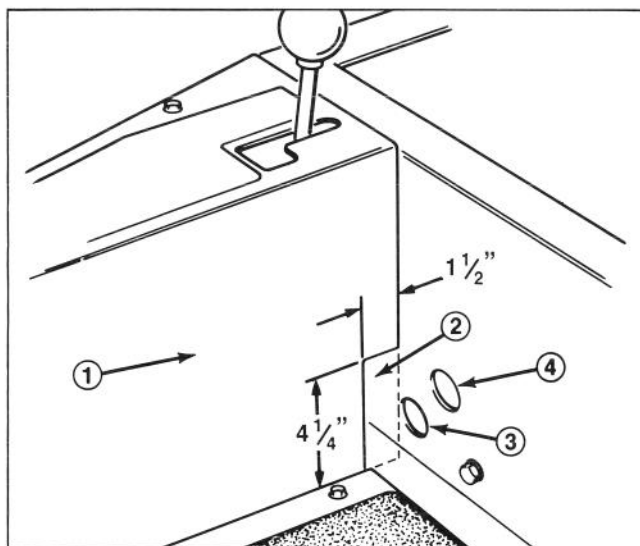
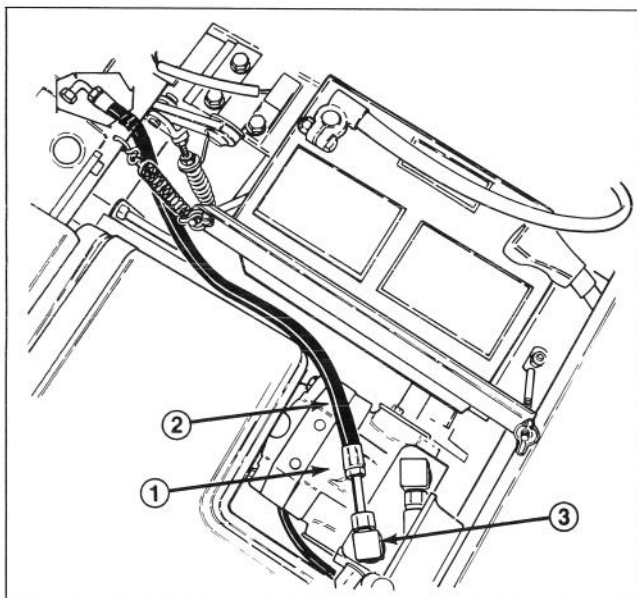
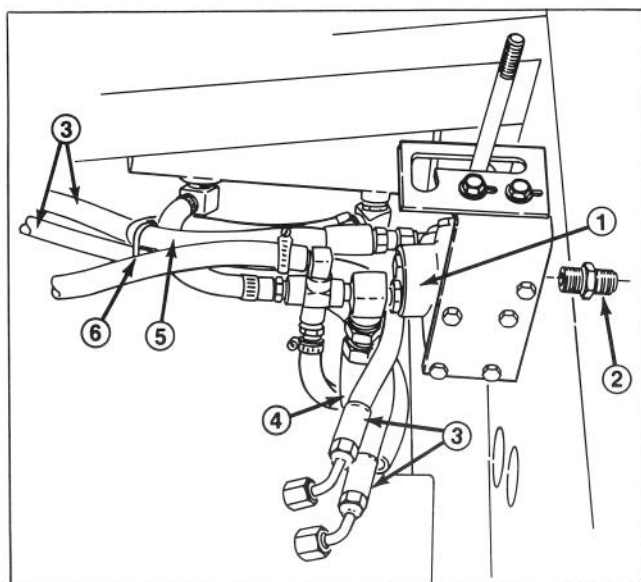

Figure 4
Figure 6
Figure 7
2. Cut out a 4-1/4 inch high by 1-1/2 inch wide section, from the back edge of the side cover to the lip of the flange, to provide an opening for the hydraulic hoses to pass through (Fig. 4). Deburr this opening to remove sharp edges.
4. Replace the exposed fitting on the transmission with a 90° ORFS elbow (Fig. 6) (supplied in the Part No. 66-1230 Retrofit Kit). Do not tighten the fitting at this time. (Original fitting can be discarded.)
5. Replace the 90° elbow on the main deck lift valve with (9/16 SAE to 11/16 ORFS) adapter (Fig. 7). Tighten adapter and discard the old elbow.
6. Connect the straight fitting end of the new long 3/8" ID flexible hydraulic line to the newly installed ORFS fitting on the transmission (Fig. 6) (see step 4) and route it through the lower right hand hole in vertical frame plate (Fig. 4). (Wait to tighten fittings until hoses are connected.)
8. Route the new short 3/8" ID flexible hydraulic line through the upper left hole in the vertical frame plate (Fig. 4). Connect either end of this line to the new ORFS adapter (see step 5) on the main deck lift valve (Fig. 7). Do not tighten the hose at this time.
10. Route the two new 1/4" flexible hydraulic lines behind the return line in Fig. 7.
18. Wrap one of the plastic ties around the two wing pressure lines and the main cylinder pressure line (Fig. 7). Position the tie to keep the hydraulic lines from contacting the P.T.O. shaft.